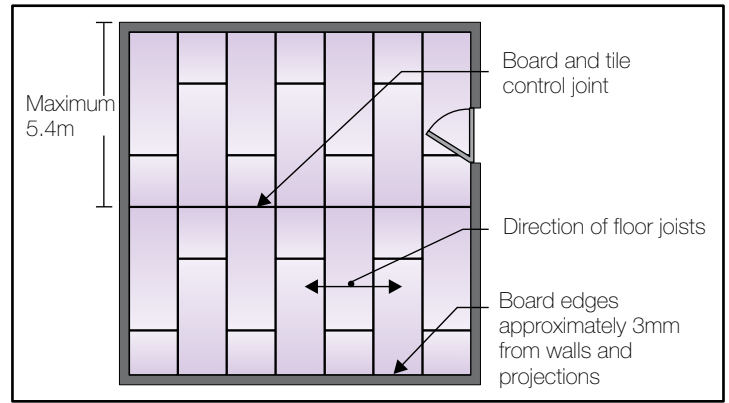

FIGURE 8 - BOARD CONTROL JOINT LAYOUT
- Internal dry and wet areas: Every 5.4m in direction of boards – See Figure 8 below.